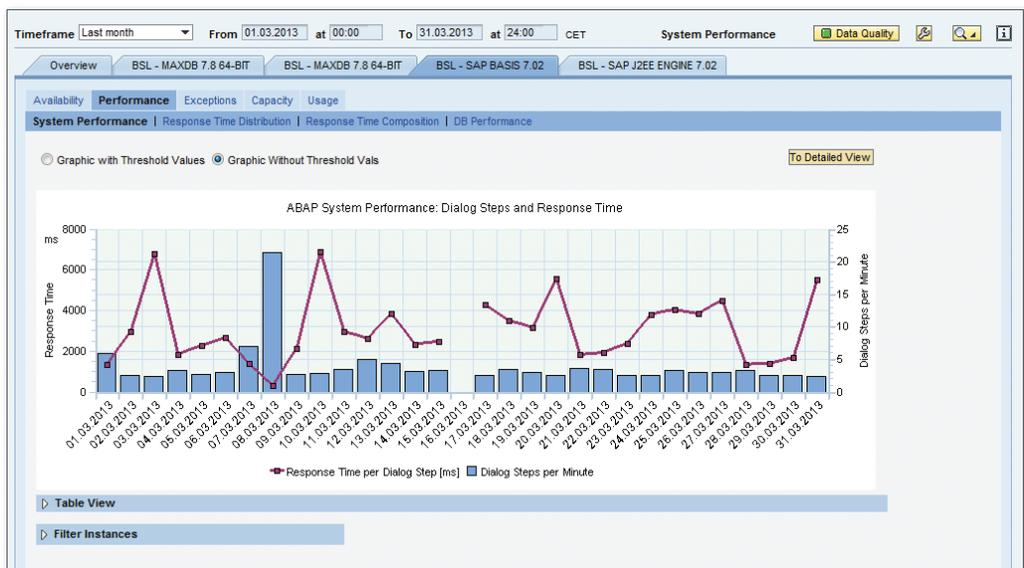

Figure 8.22 Graphic for System Performance, Dialog Steps, and Response Times
- ▶ Performance (system performance, distribution of response times, compilation of response times, and database performance, see Figure 8.22)